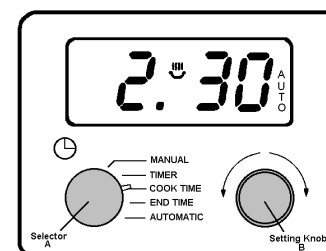

Fig.8
- iii) Turn the selector (A) to 'Cook Time'. The display will show 0.00 and cookpot (👉) symbol. Turn setting knob (B) to the number of hours and minutes you wish the food to cook e.g. 2 hrs 30 mins. Fig 8.